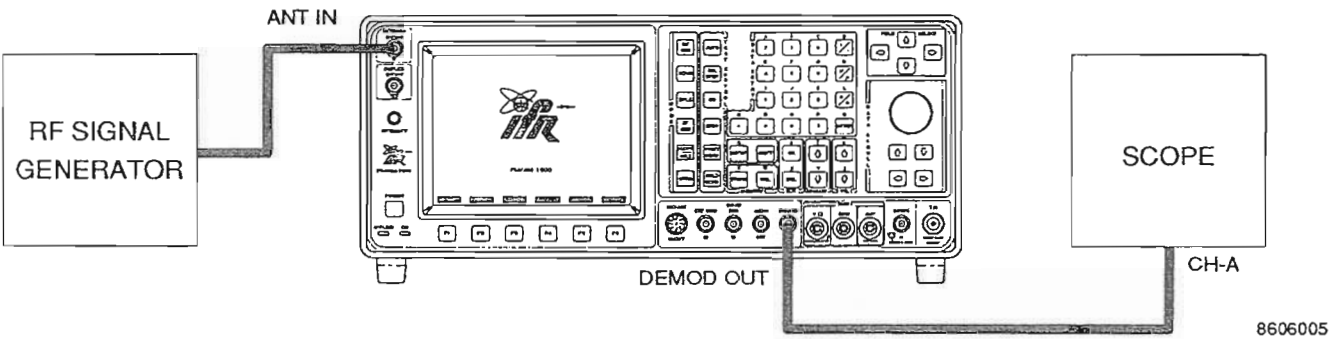

Figure 3-13 FM Calibration Test Setup
FIGURE REFERENCES: Figure 3-13
| 3. | Connect Signal Generator output (Figure 3-13) to ANTENNA IN Connector (25). |
| 5. | Connect DEMOD OUT Connector (12) to Oscilloscope Ch-A (Figure 3-13). |